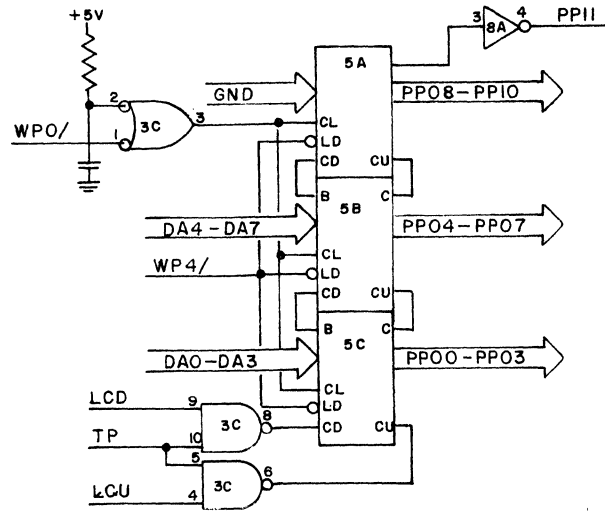

Figure 5-41. Present Position Logic
Present position (PP) of the carriage is maintained by the present position register (5A, 5B and 5C) on the servo board. An initial count is loaded into the counter from data supplied on the DA bus in conjunction with the WP4/ signal. The count in the counter is incremented whenever LCU occurs and is decremented whenever LCD occurs (see Figure 5-41).